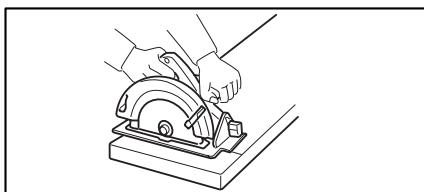
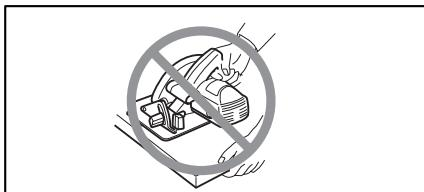

Fig. 5
Fig. 6
16. Place the wider portion of the saw base on that part of the workpiece which is solidly supported, not on the section that will fall off when the cut is made. As examples, Fig. 5 illustrates the **RIGHT** way to cut off the end of a board, and Fig. 6 the **WRONG** way. If the workpiece is short or small, clamp it down. **DO NOT TRY TO HOLD SHORT PIECES BY HAND!**